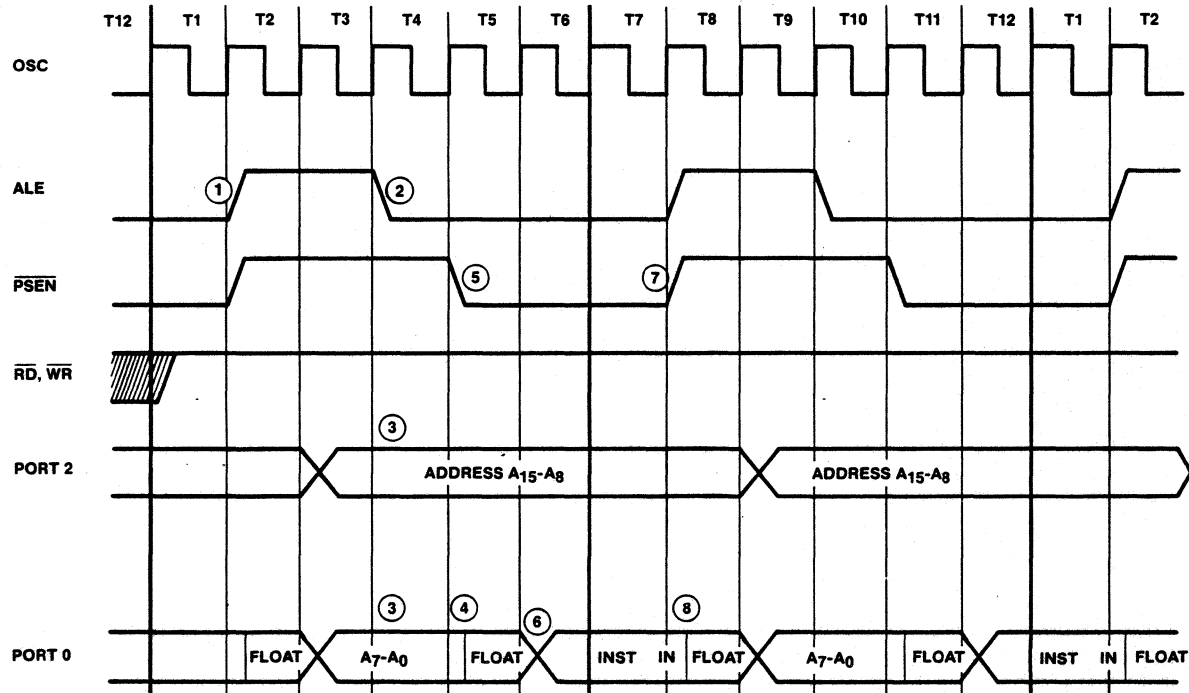

Figure 2.41. Program Memory Read Cycle Timing
Each Program Memory bus cycle consists of six oscillator periods. These are referred to as T1, T2, T3, T4, T5 and T6 on Figure 2.41. The address is emitted from the processor during T3. Data transfer occurs on the bus during T5, T6 and the following bus cycle's T1. When fetching from external Program Memory, the 8051 will always fetch an even number of bytes. If an odd number of bytes are executed prior to a branch or an External Data Memory access the non-executed byte will be ignored by the 8051. An even number of idle bus cycles (each 6 oscillator periods in duration) can occur between external bus cycles when the processor is fetching from internal Program Memory. The read cycle begins during T2, with the assertion of address latch enable signal ALE (1). The falling edge of ALE (2) is used to latch the address information, which is present on the bus at this time (3), into the 8282 latch if a non-multiplexed bus is required. At T5, the address is removed from the Port 0 bus and the processor's bus drivers go to the high-impedance state (4). The program memory read control signal ($\overline{\text{PSEN}}$) (5) is also asserted during T5. $\overline{\text{PSEN}}$ causes the addressed device to enable its bus drivers to the now-released bus. At some later time, valid instruction data will become available on the bus (6). When the 8051 subsequently returns $\overline{\text{PSEN}}$ to the high level (7), the addressed device will then float its bus drivers, relinquishing the bus again (8).